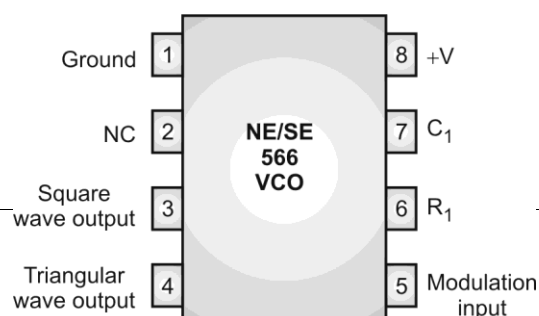

Fig. 5.4.2 : Pin diagram
- Fig. 5.4.2 is the pin diagram of NE/SE 566 VCO.
- In Fig. 5.4.2, R_1 C_1 combination determines the free running frequency and the control voltage V_C at terminal 5 is set by the voltage divider formed with R_2 and R_3 .